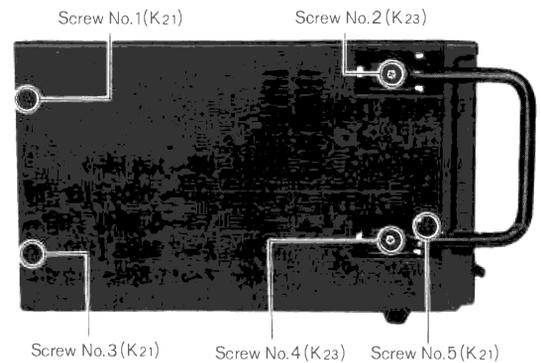

Fig. 3
3. Remove the six (5) screws (nos. 1~5) for the handle and cabinet cover, as shown in fig. 3.